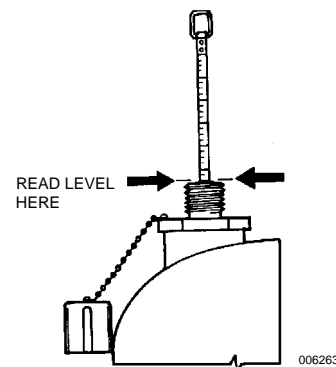

Figure 49 - Reading Liquid Level
3. Read the measurement on the tape directly at the top of the plastic sleeve in the measuring device housing (see Figure 49). Record this measurement and note the temperature of the tank module.